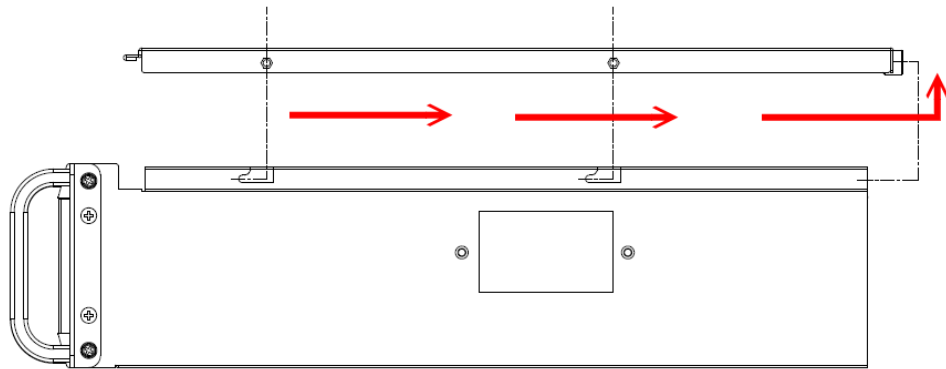

Figure 5.2 Remove the top cover/ 移除顶盖
2. Pull forward the top cover and then lift it up. (See Figure 5.2)
2. 向前拉出然后提起顶盖。（如图 5.2 所示）